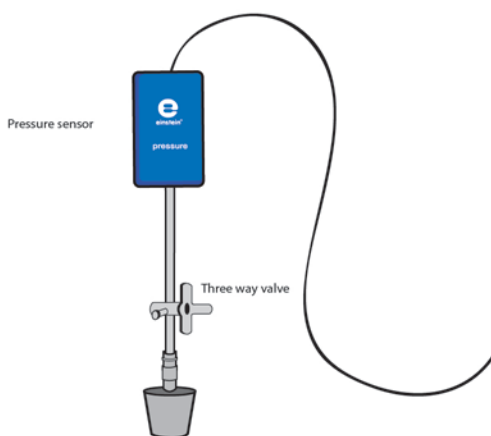

Figure 2
4. Assemble the equipment as illustrated in Figure 1 and Figure 2.
5. A syringe needle (20-gauge) is inserted through the cork, until its tip projects out slightly (see Figure 2).